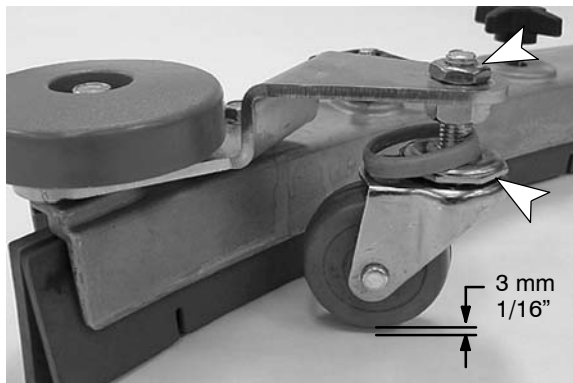

FIG. 54
1. To check the squeegee assembly for proper adjustment, remove the squeegee assembly from the machine and place it on a level surface. Measure the distance between the caster and the surface. It should measure approximately 3 mm (1/16") (Figure 54).
2. To adjust the caster height, loosen the top nut and remove the plastic bearing cover to access the adjustment nut. Turn the adjustment nut until properly adjusted (Figure 54). After adjusting, tighten the top nut and replace the plastic bearing cover. Repeat step for the other caster.